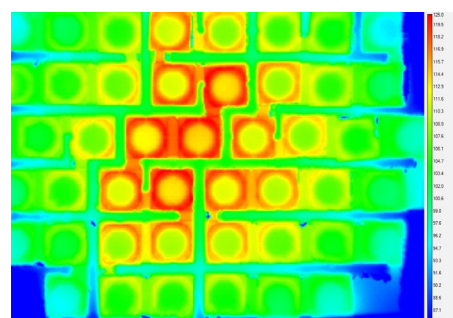

Figure 9: Thermal image
Thermal imaging, as shown in Figure 9, may help visualize and quantify the thermal gradient. In the image in Figure 9, the edge Tsp is 91 °C and the center Tsp is 106 °C. Cree recommends using a thermocouple to measure the edge Tsp and correlating the infrared (IR) image to the known measured point, since IR imaging is relative to the emissivity setting of the camera setup.